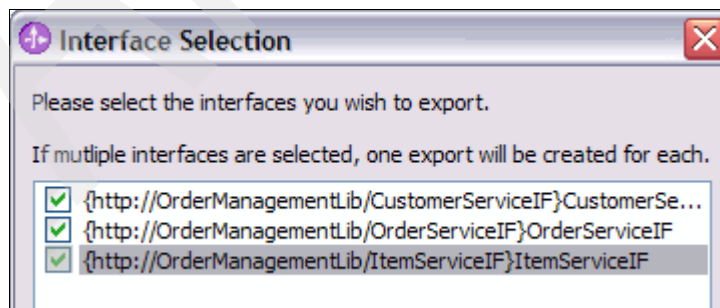

Figure 5-57 Web service binding interface selection
2. Select all available interfaces as shown in Figure 5-57 and click **OK**.